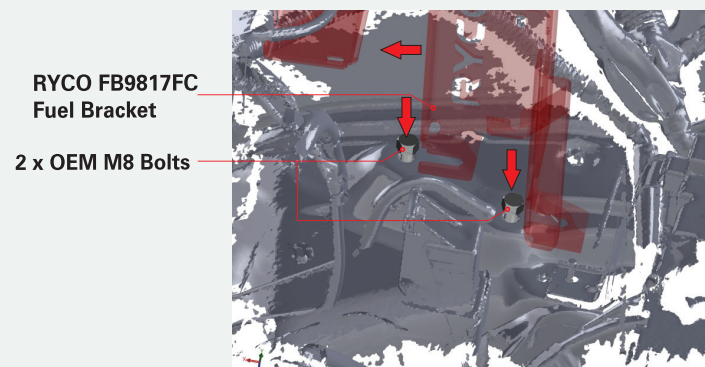

FIGURE 4A
- 7 Mount the Ryco FB9810FC bracket using the same mounting points and bolts from the OE bracket you just removed: Half screw in 2 of the OEM M8 bolts in to the base mounting points as shown in FIG. 4A. (Screw in enough to allow Ryco FB9810FC bracket to slide in under the bolt heads).